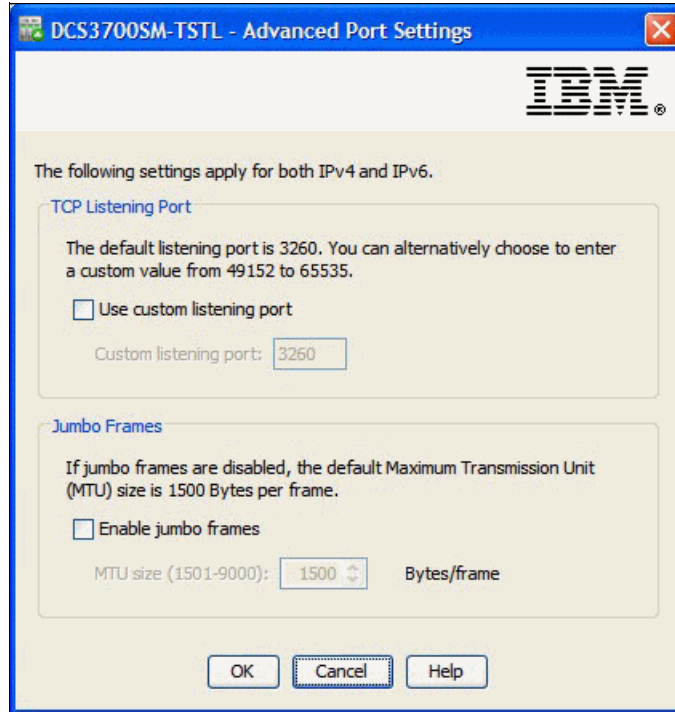

Figure 12-14 Advanced iSCSI host port settings
- After configuring IPv4 and IPv6, you can select **Advanced Host Port Settings**, as shown in Figure 12-14. These settings apply to both the IPv4 and IPv6 settings. The TCP listening port for iSCSI and jumbo frame support can be configured here. To use a TCP port other than the default (3260), select the **Use custom listening port** check box and specify the port. A custom port can be 49152 - 65535.